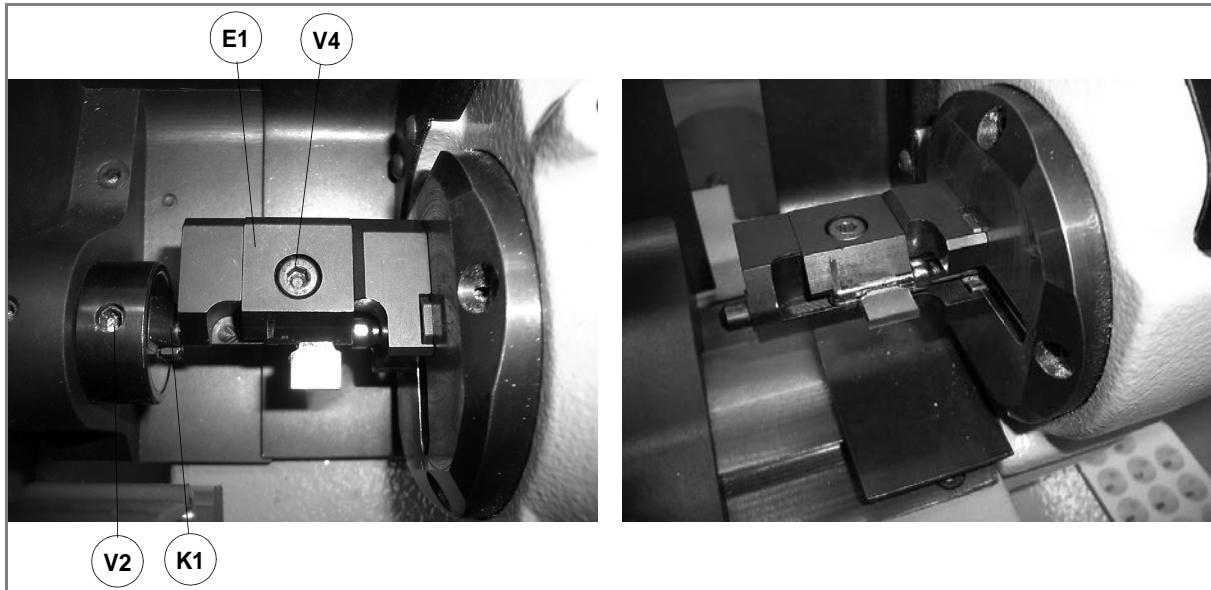

Fig. 35
- 3) Fit the key blank into the adapter E1, taking care that it is in the right position (fig. 35), then tighten the screw (V4).